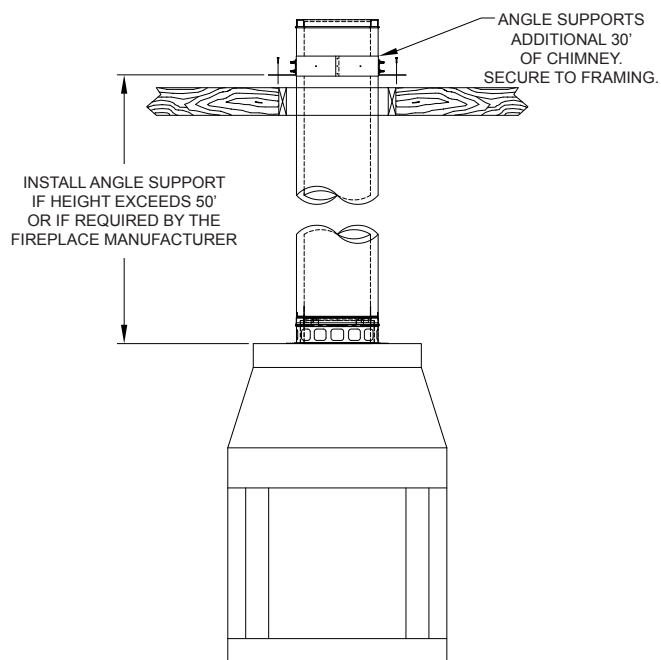
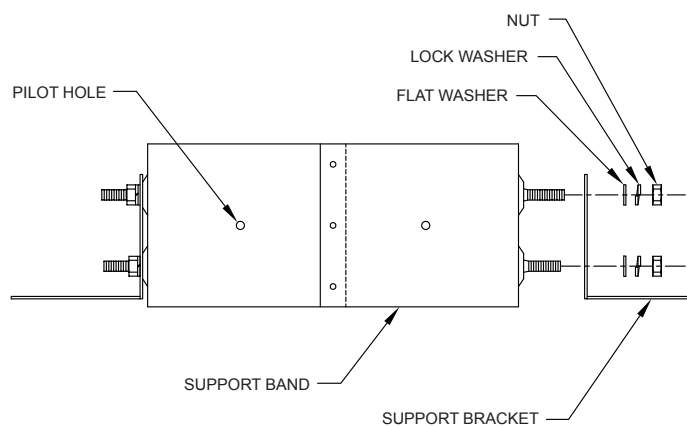
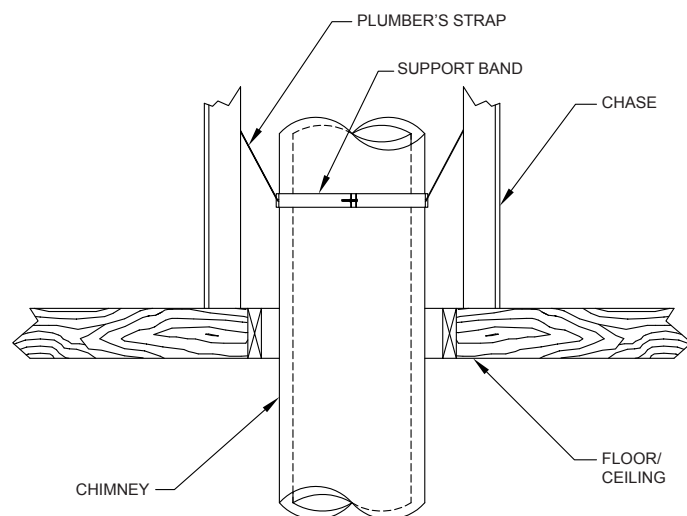

FIG. 5
FIG. 6
FIG. 7
Angle Support and Support Band: Install an Angle Support if total chimney height is greater than 50 feet, or if the fireplace manufacturer requires it. If additional support is needed, install one or more Angle Supports which will support 30 feet of chimney **FIG. 5**. Slide the Angle Support around the chimney and align over framed opening. Secure to casing with (4) sheet metal screws and assemble brackets per **FIG. 6**. Nail the brackets to the framing using a minimum of (2) nails or screws per bracket. A Support Band may be required by some fireplace manufacturers to keep the chimney vertical and help maintain clearances to combustibles within a chase. Clamp the Support Band to the pipe using the nut and bolt provided and secure legs to nearby framing using plumbers strap or guy wires. See **FIG 7**. The Support Band does not support the weight of the chimney, it is only used to keep the chimney centered within a chase.